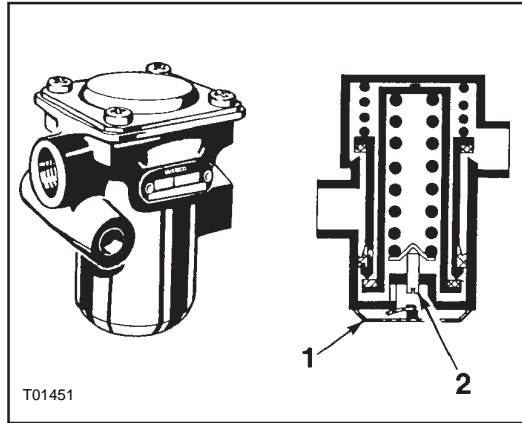

Figure 25: Air pressure regulator
1. Remove bottom cover (1, Figure 25)
2. Turn screw (2, Figure 25) :